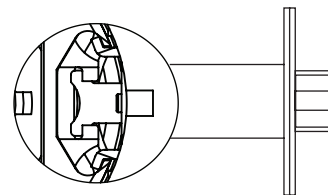

Fig. 7C Detail
4. Lockbody must engage both the latch unit prongs and tail piece (Fig. 7C).